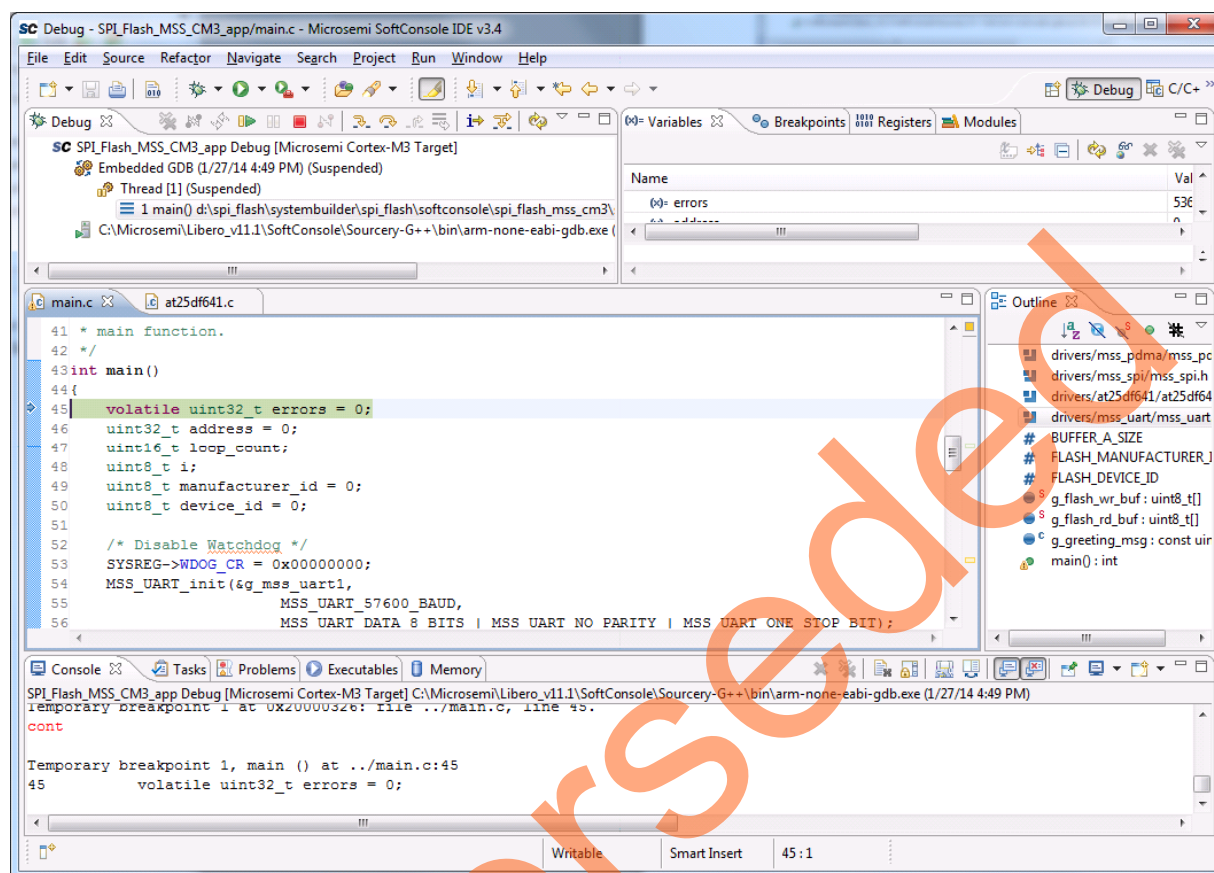

Figure 35 • SoftConsole Debugger Perspective
5. The **SoftConsole Debugger Perspective** window is displayed, as shown in Figure 35.